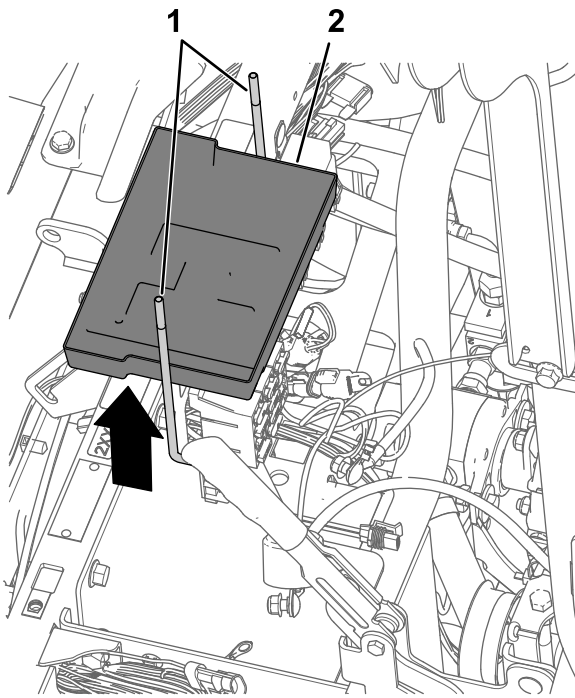

Figure 211
2. Remove the 2 J-bolts and battery tray from the battery bracket (Figure 211).